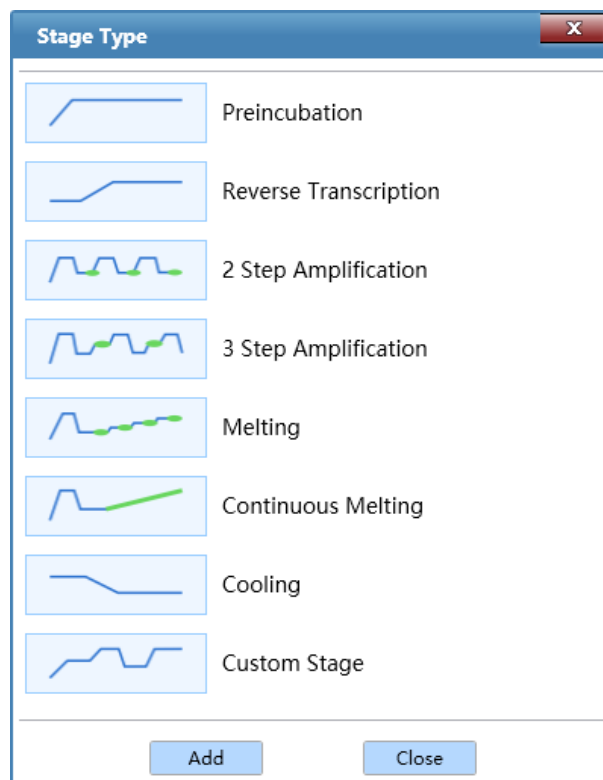

Figure D-5.4. Stage Type Window
▶ If user add a new stage, the application software will automatically pop up a stage type window, as shown in figure D-5.4.